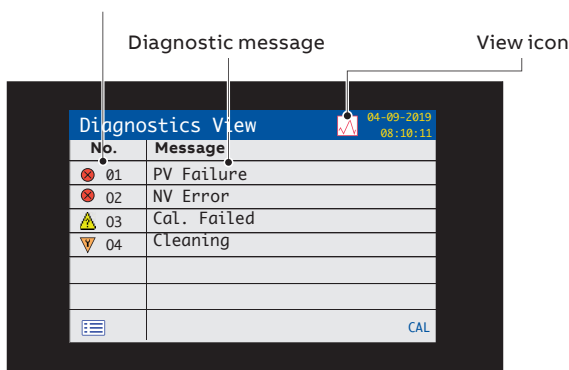

Figure 22 Diagnostics View
- **Diagnostics View** – displays a list of active diagnostic messages identified by priority and message – see Figure 22